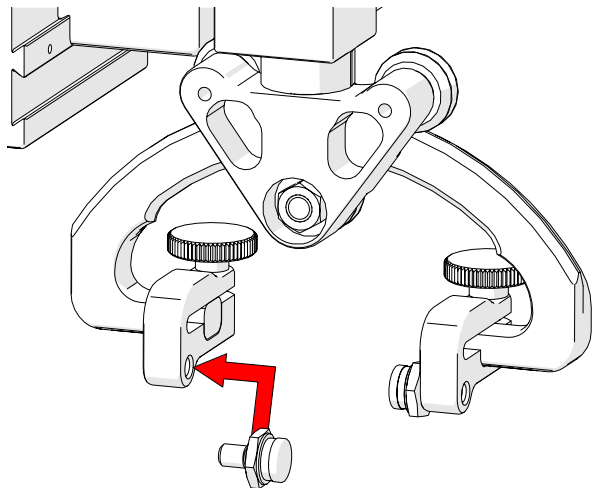

Fig. 204 - Attach pivot buttons
1. Using the supplied 3/8 in wrench (Fig. 69), install the appropriate pivot buttons to the probe holder arms (Fig. 204).